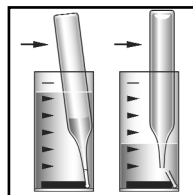

Figure 2
2. Place the ULR CHEMet ampoule in the sample cup. Snap the tip by pressing the ampoule against the side of the cup. The ampoule will fill leaving a small bubble to facilitate mixing (fig 2).